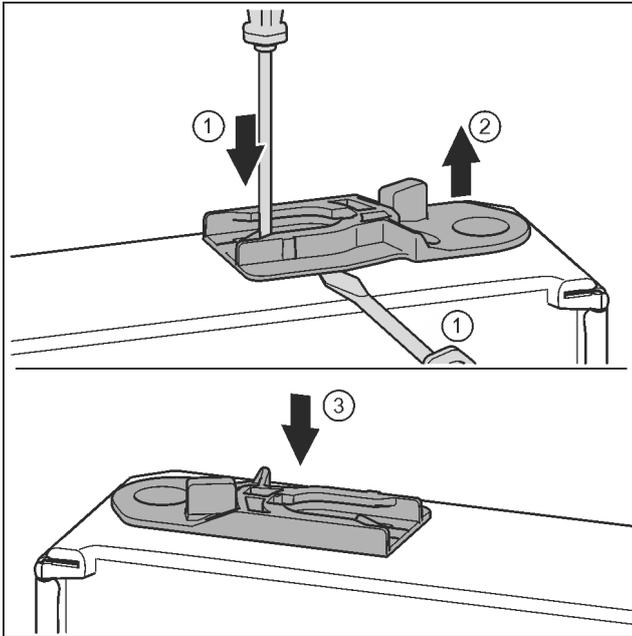

Fig. 35 \*
- ▶ Pull out the guide bush: Press the tab with a slotted screwdriver and, at the same time, insert the slotted screwdriver under the guide bush. Fig. 35 (1, 2)\*
- ▶ Slide the guide bush included in the scope of supply to the other side of the housing. Fig. 35 (3)\*